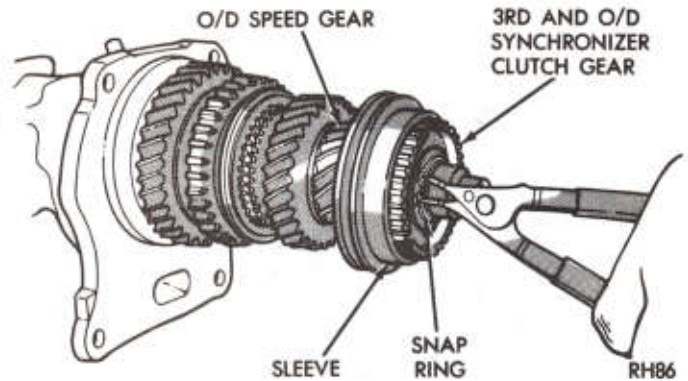
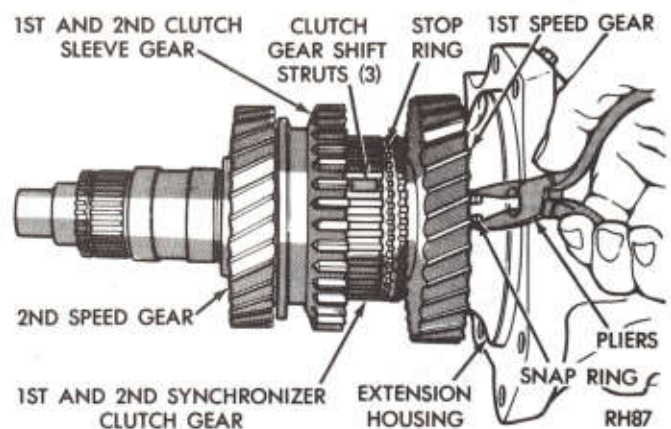
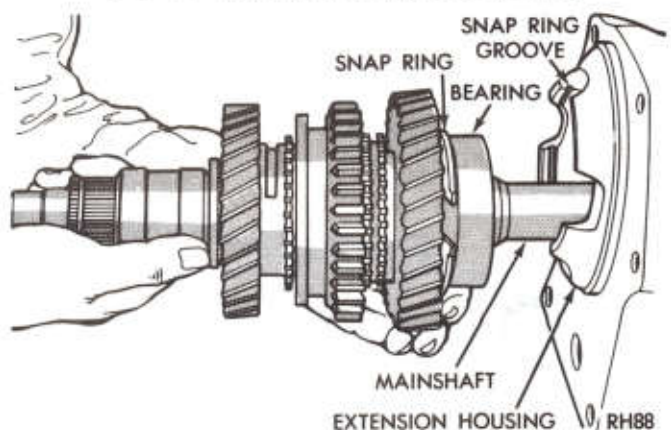

Fig. 17—Disassembling Mainshaft
Fig. 18—Mainshaft Bearing Snap Ring
Fig. 19—Remove or Install Mainshaft
(12) Remove snap ring (Fig. 17), that retains 3rd and O/D synchronizer clutch gear and sleeve assembly to the mainshaft then slide 3rd and O/D synchronizer assembly off end of mainshaft.
(13) Slide O/D gear and stop ring off mainshaft. (Do not separate 3rd and O/D speed synchronizer clutch gear, sleeve shift struts, or springs unless inspection reveals a replacement part is required).
(14) Using a long-nose pliers, compress snap ring that retains mainshaft ball bearings in extension housing (Fig. 18).
(15) Holding snap ring compressed, pull mainshaft assembly and bearing out of the extension housing (Fig. 19).
(6) Install partially assembled mainshaft into extension housing far enough to engage bearing retaining ring in slot in extension housing (Fig. 19). Compress outer snap ring with pliers so that mainshaft ball bearing can move in and bottom against its thrust shoulder in extension housing. Release outer snap ring and seat it all around its groove in extension housing (Fig. 18).
(7) Slide overdrive gear over mainshaft (with synchronizer cone toward front) followed by O/D gear stop ring (Fig. 17).
(8) Install 3rd-O/D synchronizer clutch gear assembly (including sleeve, shift struts and springs) on mainshaft (shift fork slot toward rear) against O/D gear (Fig. 17). Be sure to index rear stop ring with clutch gear struts.
(9) Install retaining snap ring (Fig. 17). Then, using grease, position front stop ring over clutch gear, again indexing ring lugs with struts.
(10) Coat a new extension gasket with grease, then place it in position on the extension.
(11) To provide clearance so that assembly will be possible, slide reverse idler gear to center of its shaft and move the 3rd O/D synchronizer sleeve as far forward as practical (do not lose struts).